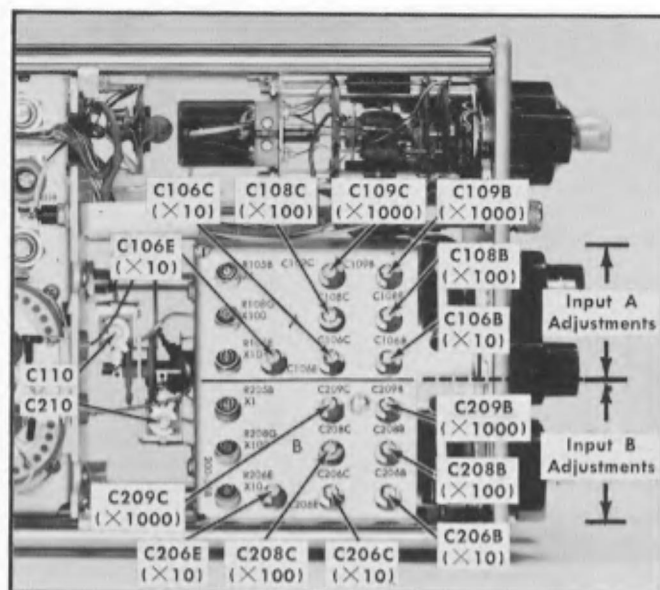
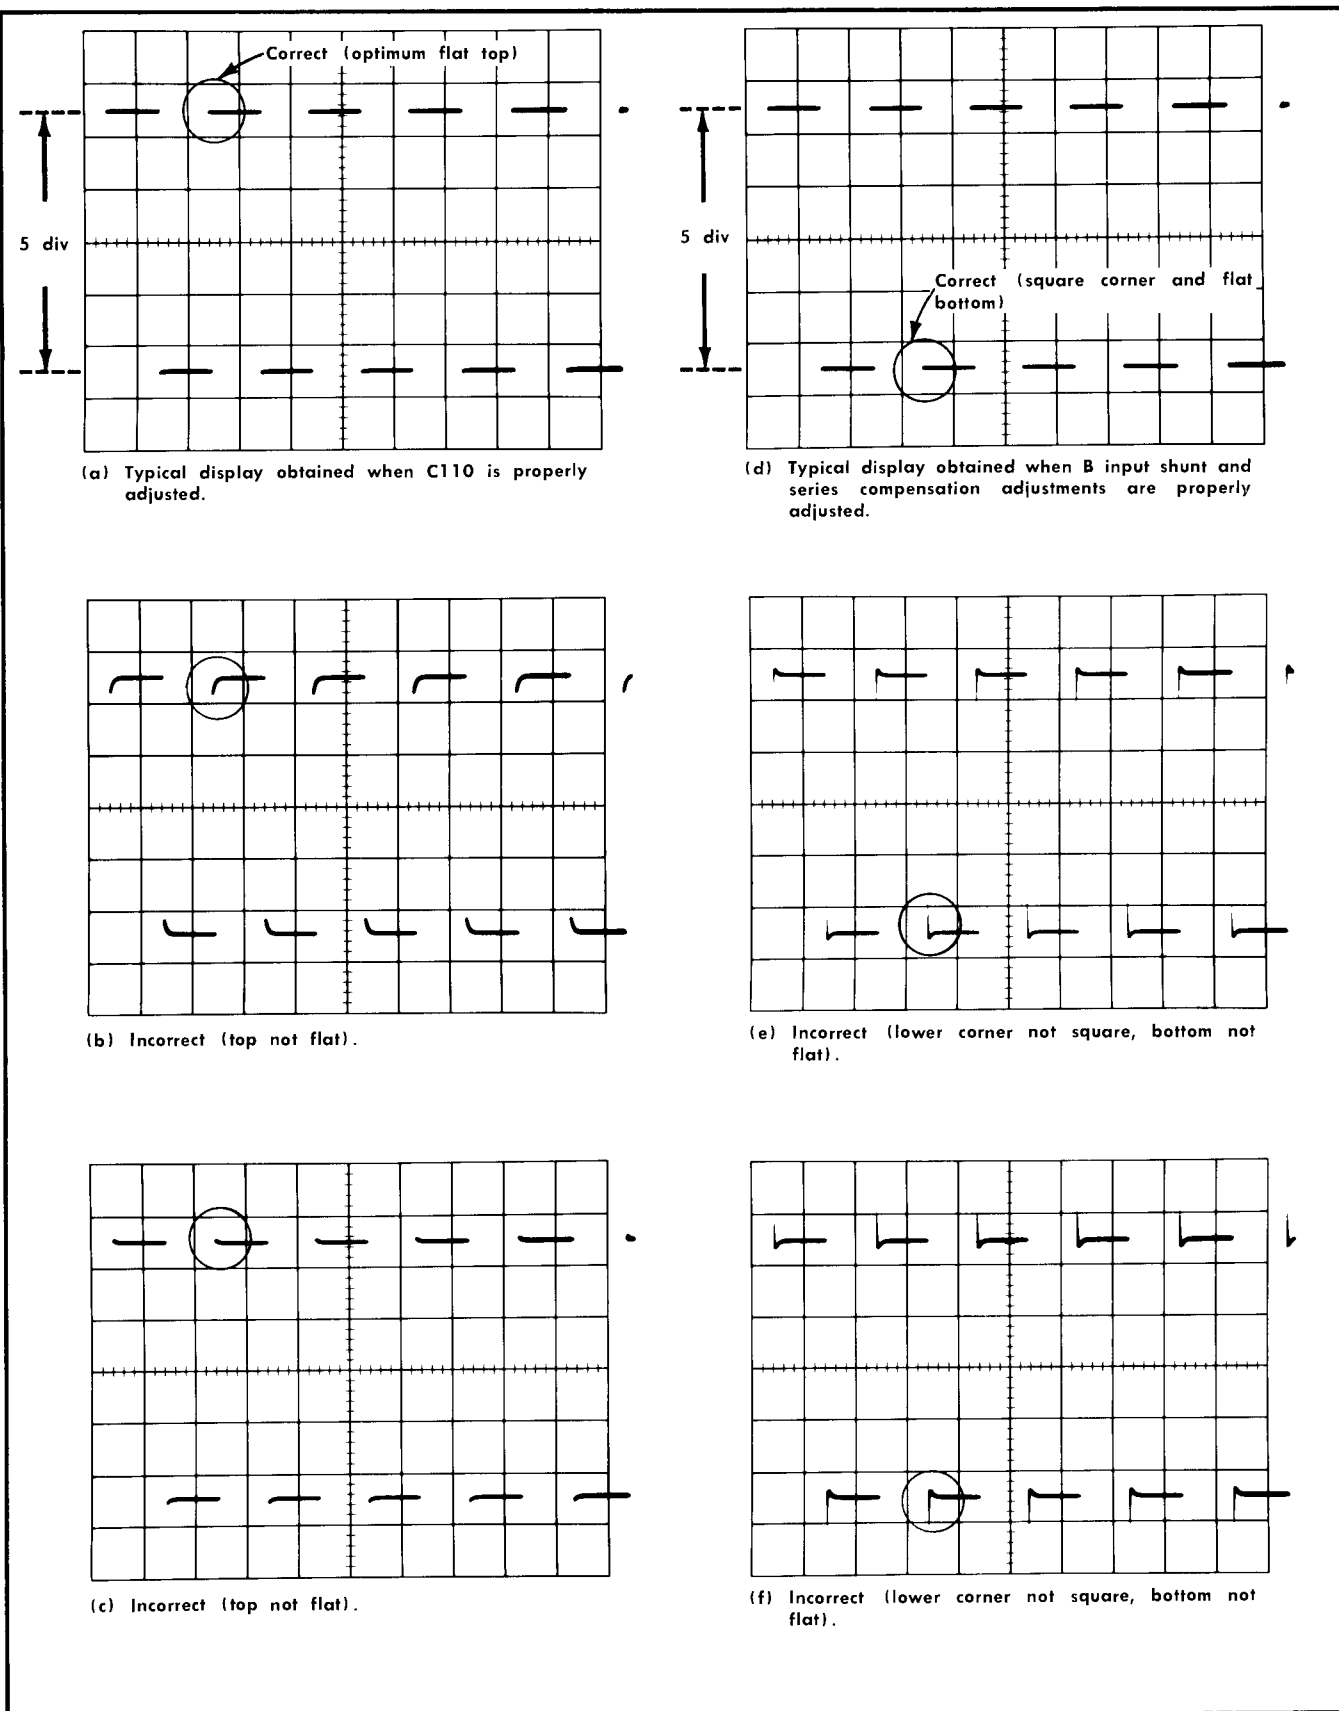

Fig. 5-41. Location of step 34 adjustments.
Fig. 5-42. Typical waveforms obtained when compensating the attenuators.
d. Using Table 5-5 as a guide, start with adjustment C110 [see Fig. 5-41]. Fig. 5-42a shows the correct display
1For input A, adjust waveform for best upper front corner and flat top. For input B, the waveform is inverted so adjust for best lower front corner and flat bottom. See Fig. 5-41 for adjustment locations and Fig. 5-42 for typical waveforms.